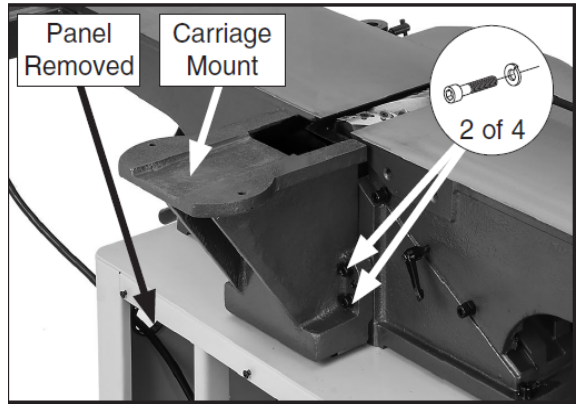

Figure 4
1. Install the fence carriage mount to jointer using four pre-installed cap screws and lock washers.(Figure 4)